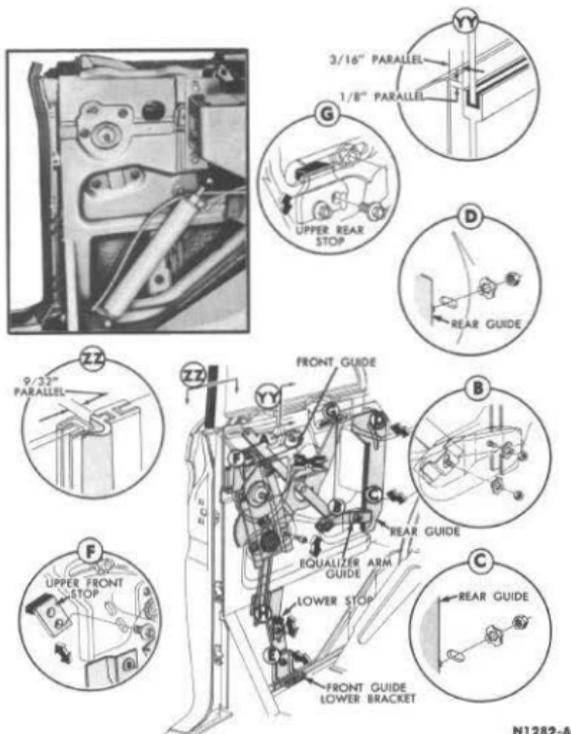

FIG. 111—Quarter Window Adjustments—Model 76
The fore-and-aft adjustment is used to obtain the proper clearance ( $\frac{1}{16}$ -inch) between the rear edge of the door window frame and the front edge of the quarter window frame (Fig. 111).
Point "B". The front end of the equalizer arm guide can be adjusted vertically to obtain proper alignment and fit of the front upper edge of the window frame at the top side rail weatherstrip (Fig. 111).
Point "C". The quarter window rear guide can be tilted by moving the lower end of the guide laterally to properly align and fit the rear upper edges of the window frame at the top side rail weatherstrip (Fig. 111).
**Point "D".** The upper end of the window rear guide can be adjusted laterally to properly align the upper sides of the window frame at the glass outer weatherstrip (Fig. 111).
**Points "F" and "C".** The window upper stops are adjusted up or down to obtain the  $\frac{1}{8}$ -inch parallel dimension between the window lower frame and the quarter panel at the belt line (Fig. 111).
**Point "H".** The quarter window lower stop is adjusted up or down to obtain the proper level of the top edge of the window frame in the quarter panel (Fig. 111).